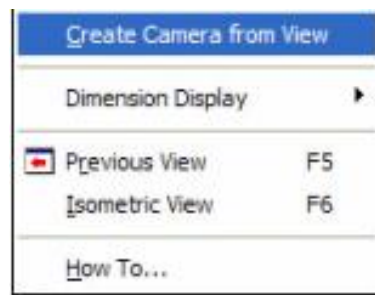

Figure 6: Choose Create Camera from View to establish specific, consistent presentation of objects
- Right-click on the background in the Inventor Graphics window, then select Create Camera from View (figure 6).